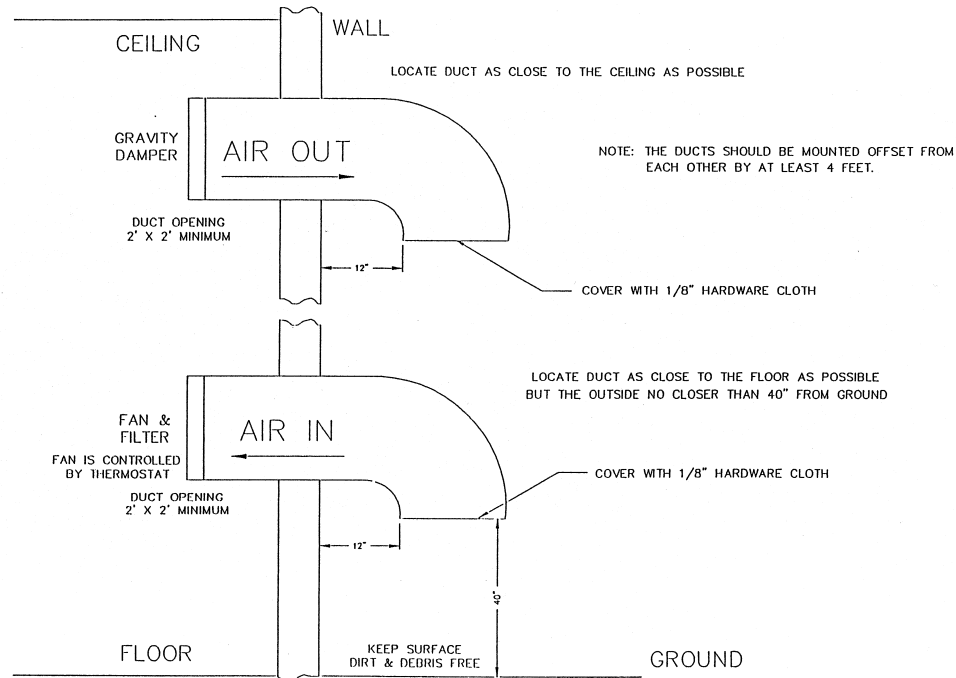

Figure 3-1. 1 kW Minimum Ventilation Configuration
The information presented in this section is intended to serve only as a general guide and may need to be modified for unusually severe conditions. A combination of air conditioning and ventilation should not be difficult to design (see Figure 3-1). System interlocking and thermostat settings should be reviewed with ADC Telecommunications. As with any equipment installation, it is always good practice to consult the manufacturer when questions arise. ADC Telecommunications can be contacted at (724) 941-1500.